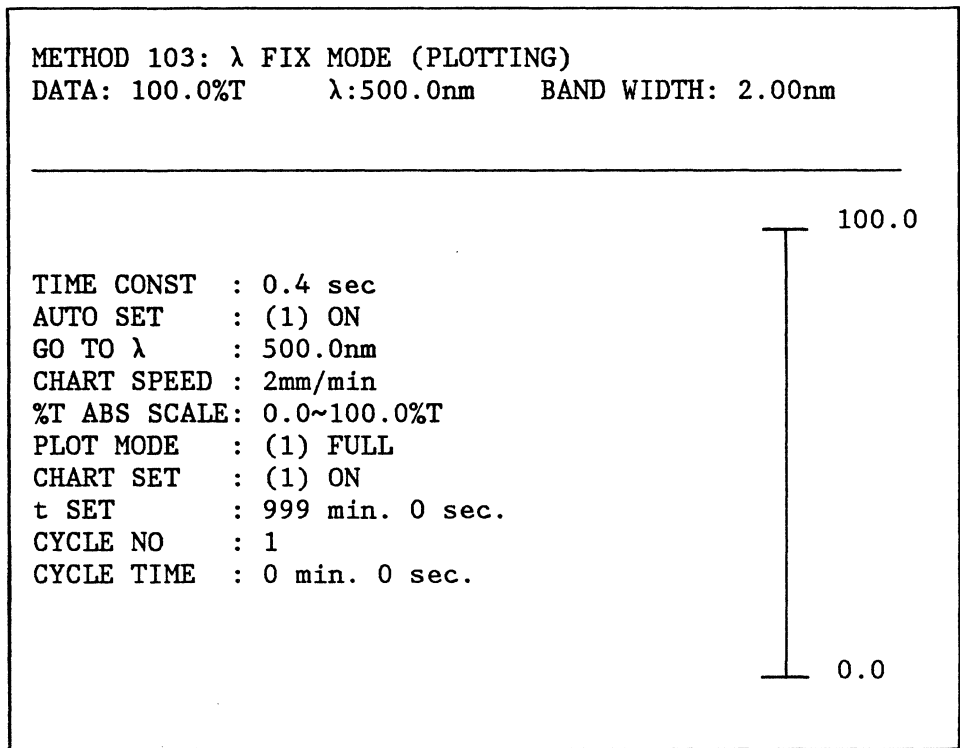

Figure 4-2. Method 103 Operating Conditions (Preset Values).
2. If a check of the operating conditions is desired, press the `Display List` key. The parameters used to set the operating conditions will be displayed as shown in Figure 4-2.